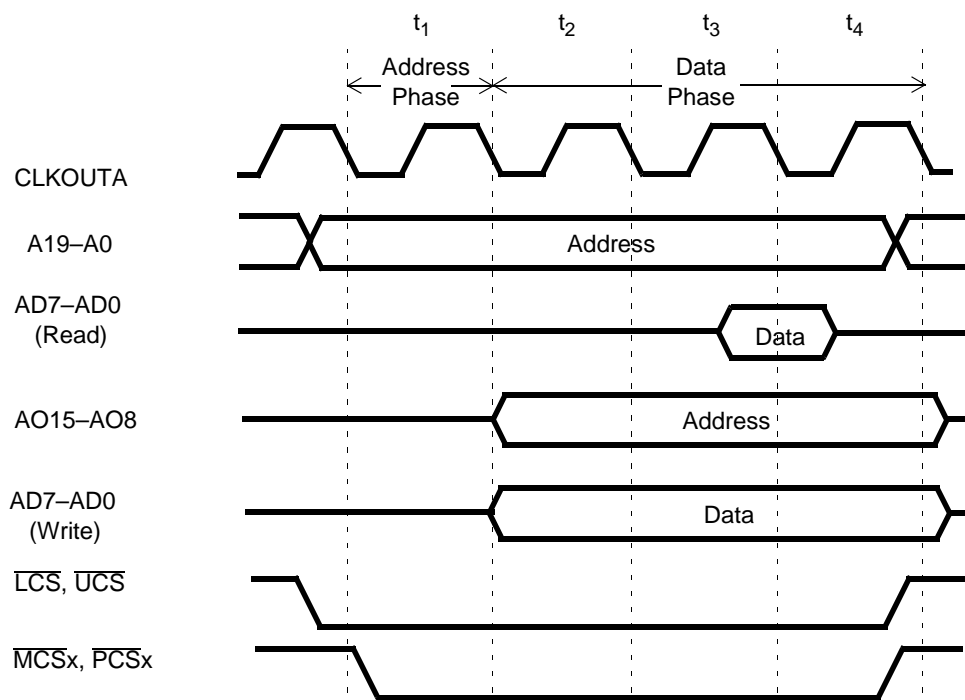

Figure 7. Am188ES Microcontroller—Read and Write with Address Bus Disable In Effect
- Figure 7 shows an Am188ES microcontroller bus cycle when address bus disable is in effect. The address and data is not multiplexed. The AD7–AD0 signals have only data on the bus, while the AO bus has the address during a read or write operation.